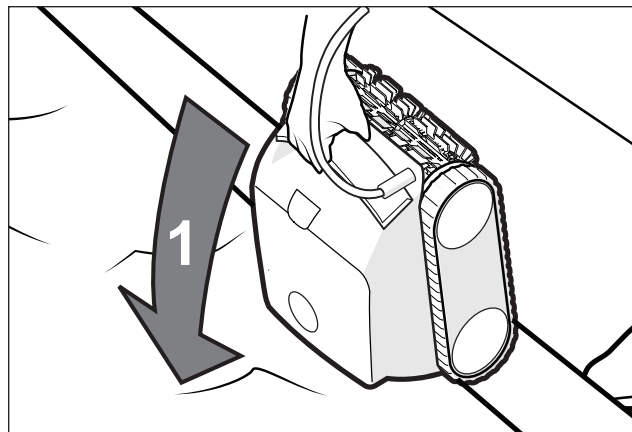

Figure 11. Submerge the Cleaner Vertically
2. At the center point, submerge the cleaner in the pool and hold in the vertical position to release any air trapped inside (Figure 11).